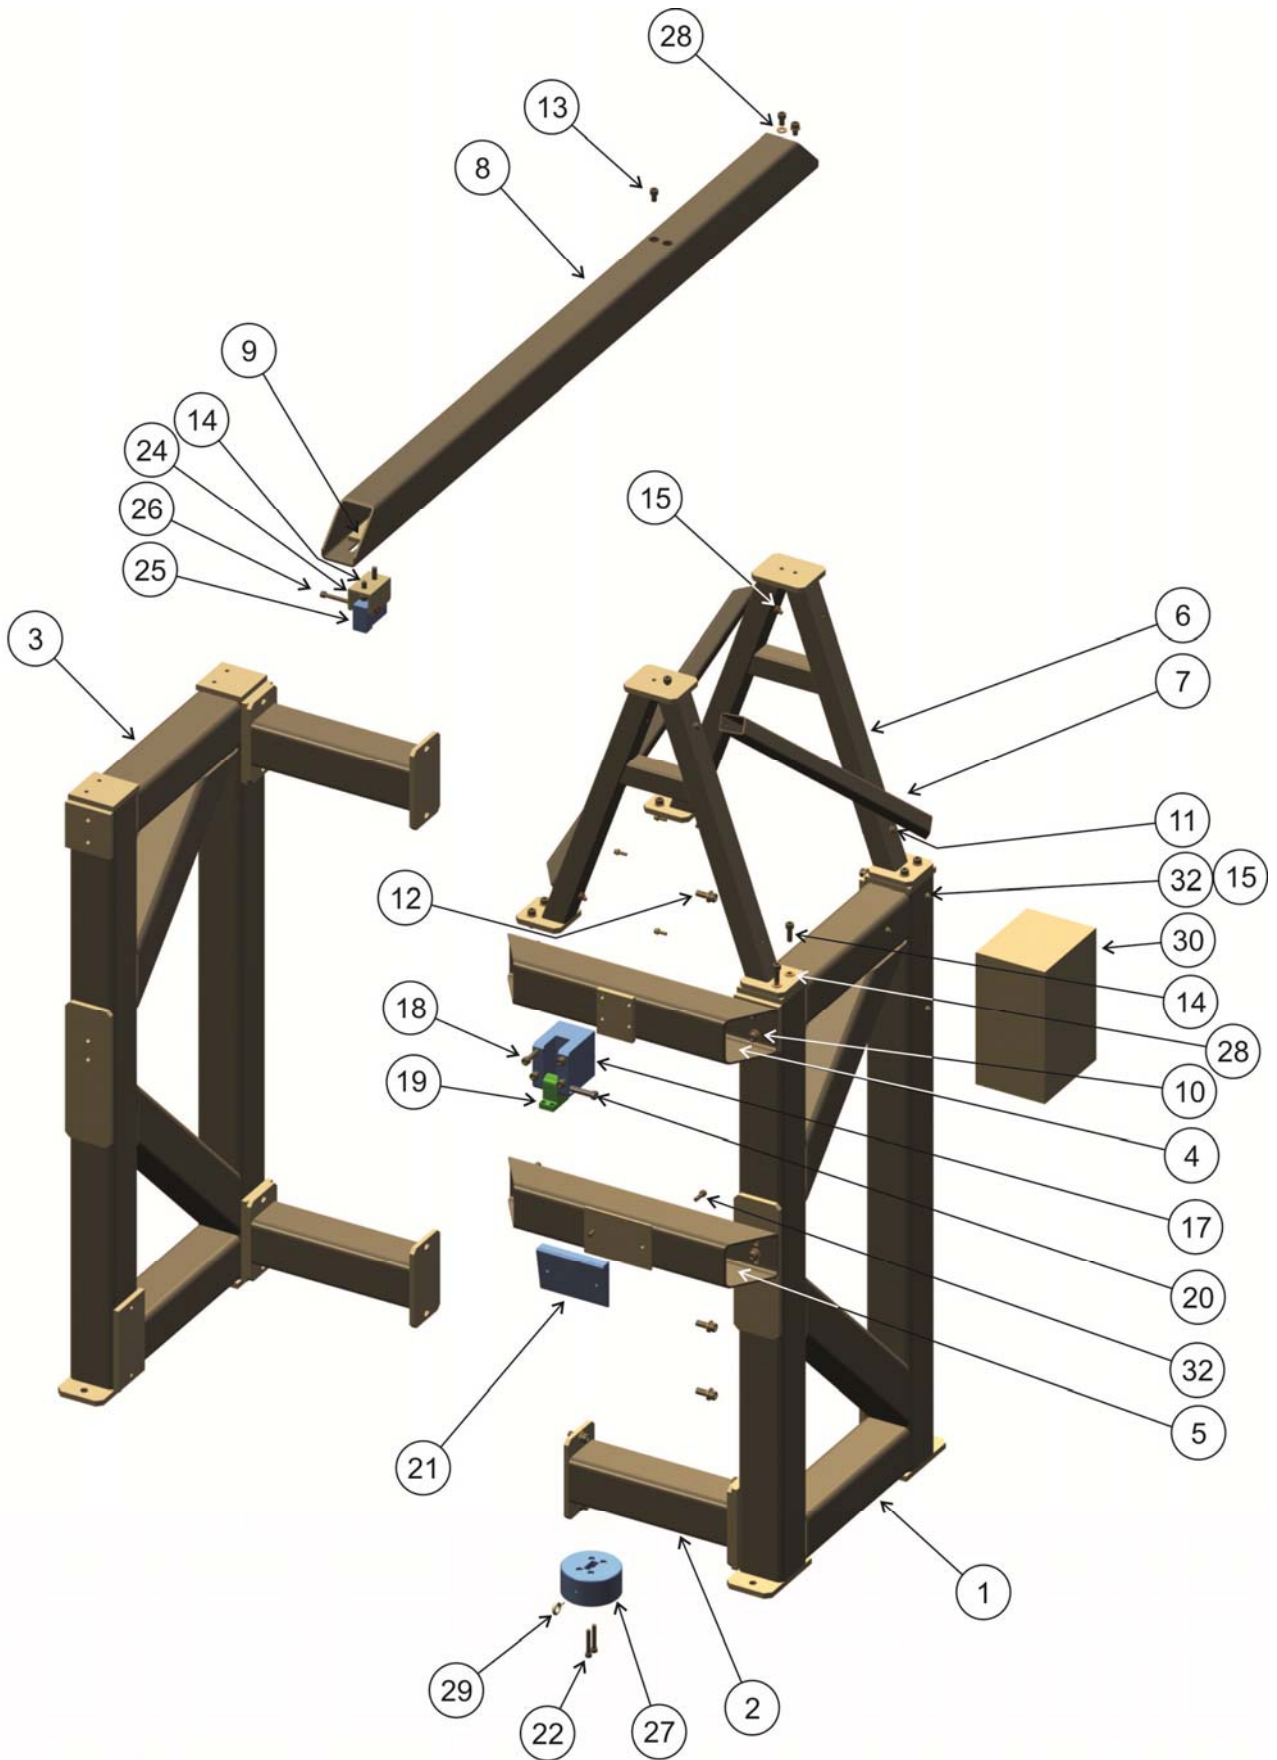
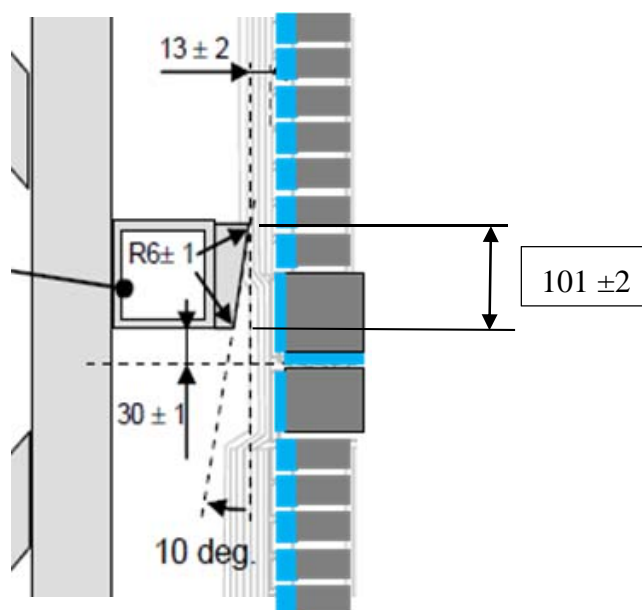

Figure 88 . Exploded view Dynamic Rig part nr 133-8400
Figure 94 . Checking the Impact Block position adjustment
Suspend the bare leg (without suit) on the fixture with the Pivot Hinge in the Pivot Clearance Block and the Shoulder Bolt (Figure 88, item 17 and 20). Check that the distance from the bottom of the Impact Block is 30 ± 1 mm above the top of the plastic blue Meniscus (Figure 61 item 2, Part Nr 133 – 5313) of the knee and 13 ± 2 mm from the front of the impact face (point nearest to the leg) to the impact segments of the tibia. See Figure 94. Adjust the height of the Impact Block by moving the Impact Bar Weldment (Figure 88, item 5) up or down (4 screws that mount tube to frame). Adjust the horizontal Impact Block to Leg distance to 13 ± 2 mm. Shims can be added to the back of the Impactor Block or the Pivot Clearance Block if necessary.